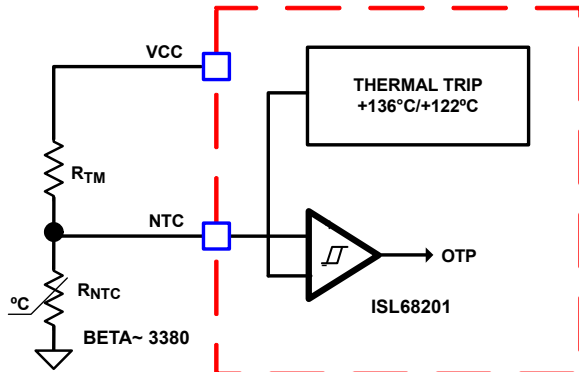
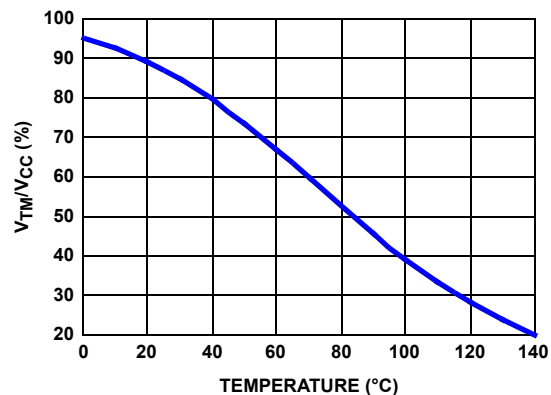

FIGURE 16. BLOCK DIAGRAM OF THERMAL MONITORING AND PROTECTION
FIGURE 18. THE RATIO OF TM VOLTAGE TO NTC TEMPERATURE WITH RECOMMENDED PART
The diagram of thermal monitoring function block is shown in Figure 16 on page 18. One NTC resistor should be placed close to the respective power stage of the voltage regulator VR to sense the operational temperature, and pull-up resistors are needed to form the voltage dividers for the NTC pin. As the temperature of the power stage increases, the resistance of the NTC will reduce, resulting in the reduced voltage at the NTC pin. Figure 18 on page 18 shows the TM voltage over the temperature for a typical design with a recommended 10kΩ NTC (P/N: NCP15XH103J03RC from Murata, $\beta = 3380$) and 1.54kΩ resistor R_{TM} . It is recommended to use those resistors for accurate temperature compensation because the internal thermal digital code is developed based on these two components. If a different value is used, the temperature coefficient must be close to 3380 and R_{TM} must be scaled accordingly. For instance, if $NTC = 20k\Omega$ ($\beta = 3380$), then R_{TM} should be $20k\Omega / 10k\Omega * 1.54k\Omega = 3.08k\Omega$.
Based on the V_{CC} voltage, the ISL68201 converts the NTC pin voltage to a digital signal for temperature compensation. With the nonlinear A/D converter of the ISL68201, the NTC digital signal is linearly proportional to the NTC temperature. For accurate temperature compensation, the ratio of the NTC voltage to the NTC temperature of the practical design should be similar to that in Figure 18.
1. Properly choose the voltage divider for the NTC pin to match the NTC voltage vs temperature curve with the recommended curve in Figure 18 on page 18.
As shown in Figures 16 on page 18, there is a comparator with hysteresis to compare the NTC pin voltage to the threshold set. When the NTC pin voltage is lower than 22.31% of the V_{CC} voltage (typically +136°C), it triggers Over-Temperature Protection (OTP) and shuts down the ISL68201. When the NTC pin voltage is above 27.79% of the V_{CC} voltage (typically +122.4°C), the ISL68201 will resume normal operation. When an OTP fault is declared, the controller forces the LGATE and UGATE gate-driver outputs low.